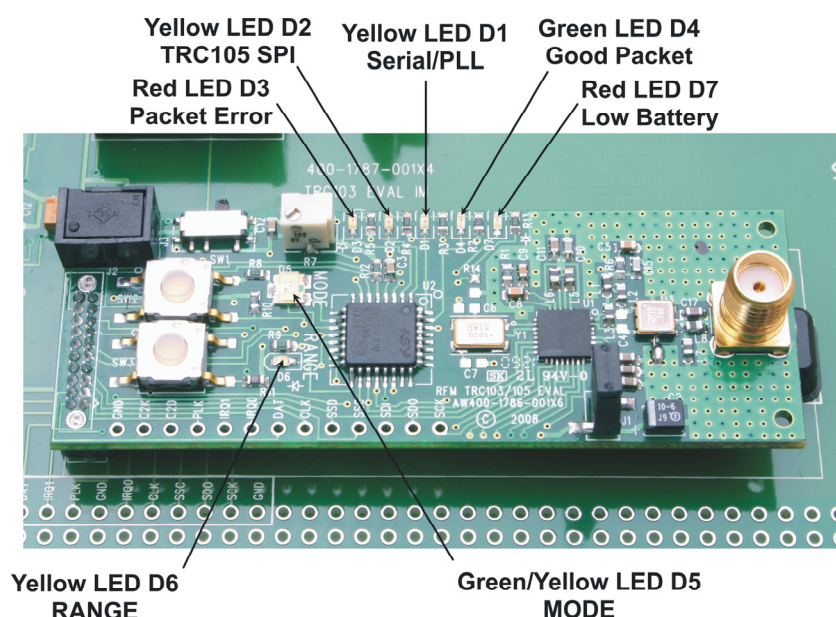

Figure 10 - DR-TRC105 Radio Board LED Indicators
5. If the radios are receiving good packets, then the green Good Packet LEDs will be flashing alternately on each board (plus various yellow LEDs). Figure 10 details the locations of the LEDs.
The DR-TRC105 radio board LED indicator names and locations are shown in Figure 10. Table 2 summarizes the functions of the DR-TRC105 radio board connectors, user controls and LED indicators.